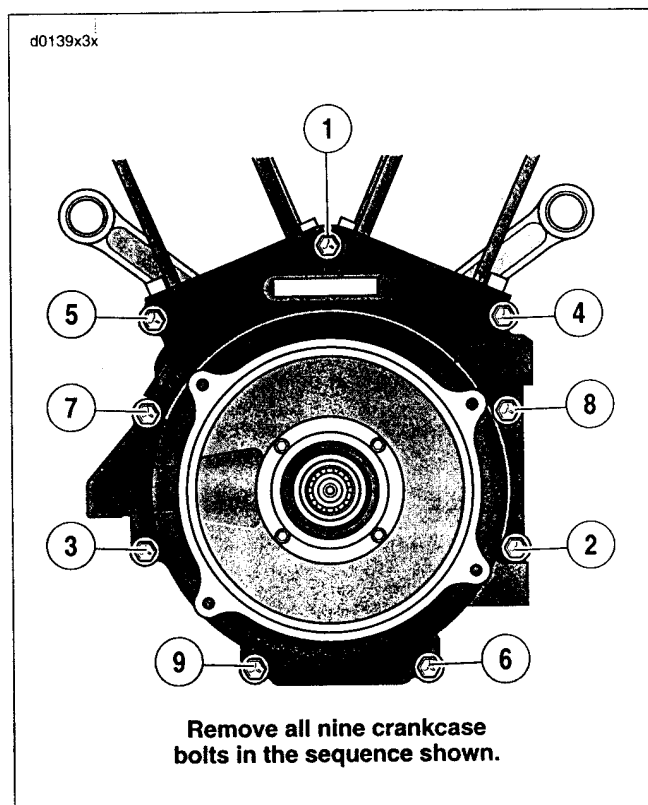

Figure 3-59. Crankcase Bolt Sequence
3. Rotate crankcase in the engine stand so that the cam cover flange is facing straight upward. See Figure 3-59. Remove the nine crankcase bolts in the sequence shown.